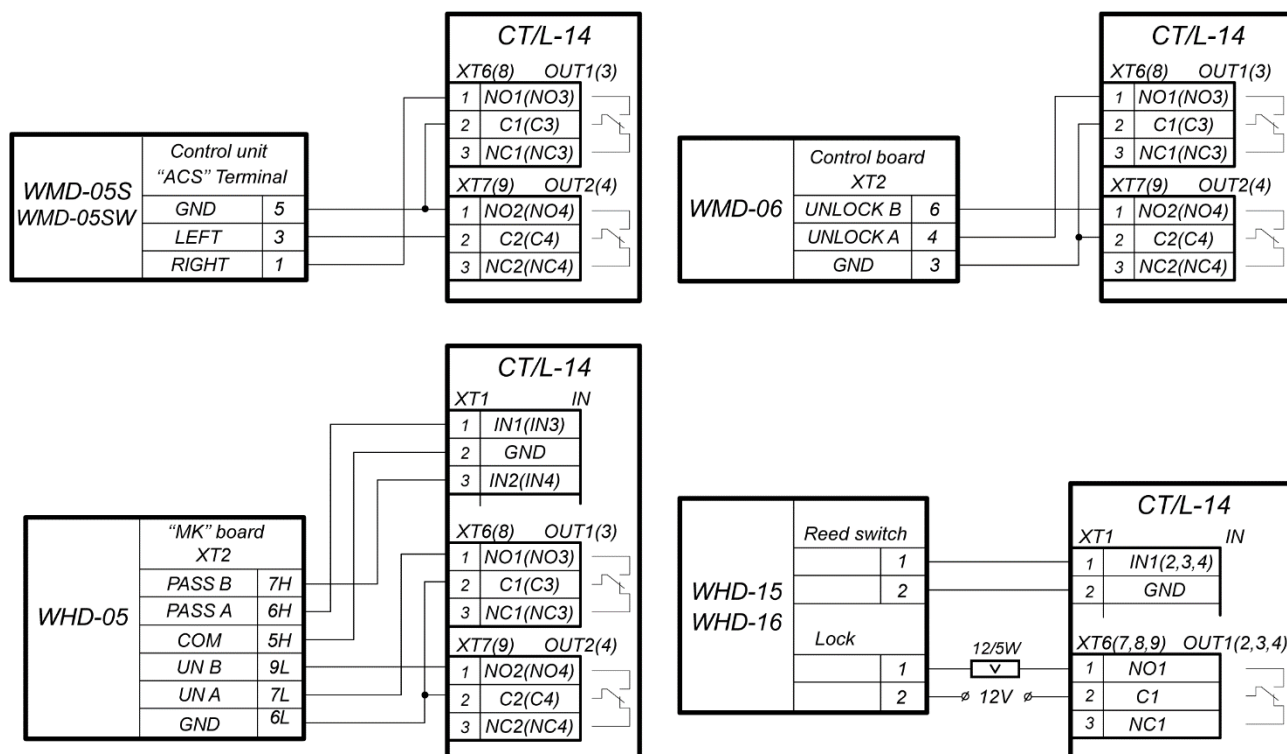

Figure 7. Connection layouts of the gates
4. Connect the swing gate (the control unit of the turnstile) to **XT1**, **XT6**, and **XT7** terminal blocks of the lower board of the controller in compliance with the layout (Fig. 7).
5. Connect the swing gate (the control unit of the turnstile) to **XT1**, **XT8**, and **XT9** terminal blocks of the lower board of the controller in compliance with the layout (Fig. 7).